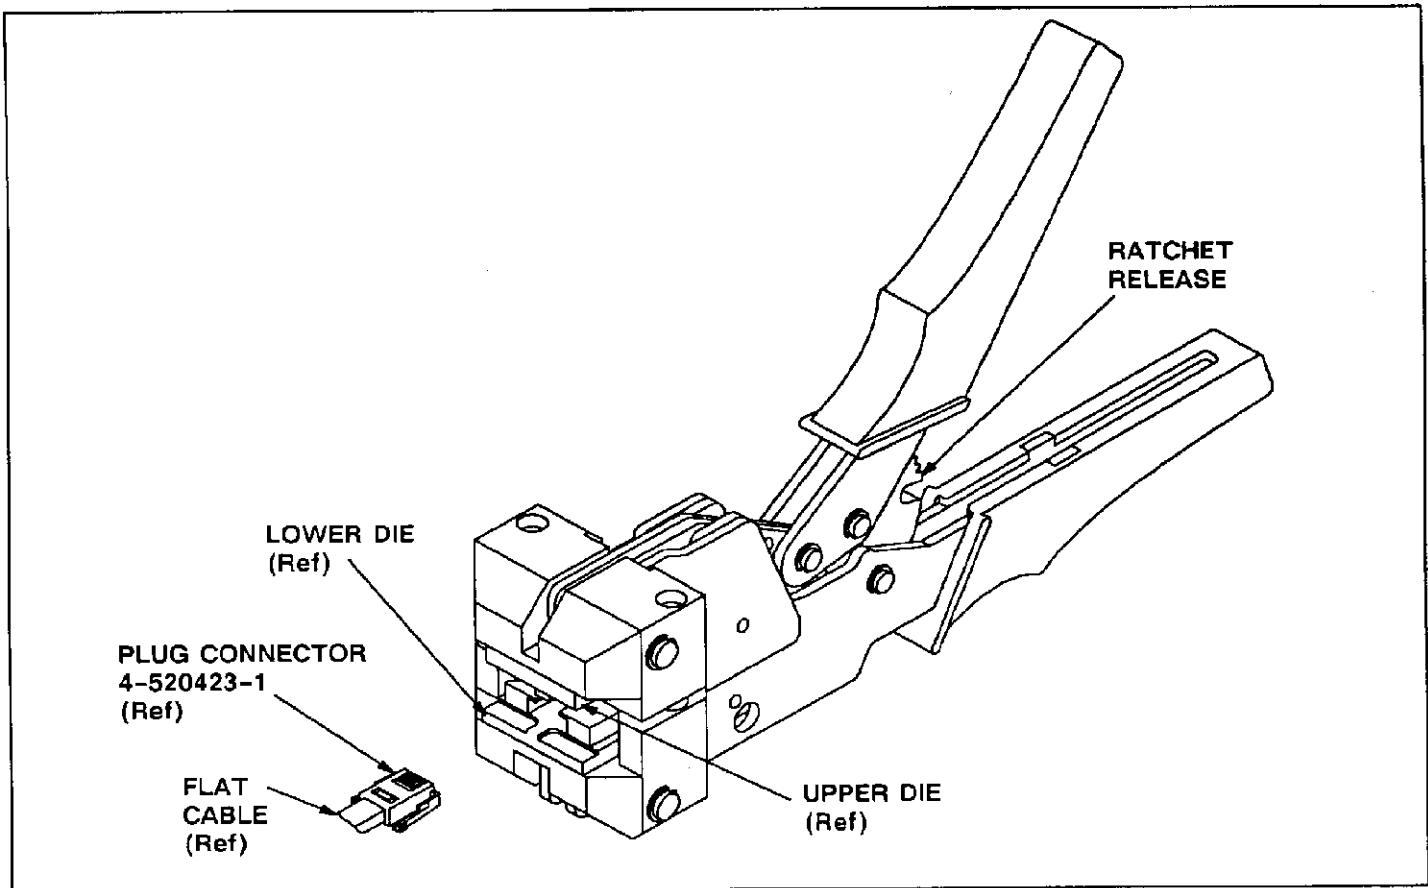

Fig. 4
5. TERMINATION PROCEDURE (Figure 4)
2. Slide connector (with cable in place) into lower die of hand tool, as shown in Figure 4.
If connector or die inserts were not properly selected, remove and discard the damaged product by squeezing the tool handles slightly to open the tool handles; then push forward on the ratchet release. See Figure 4.